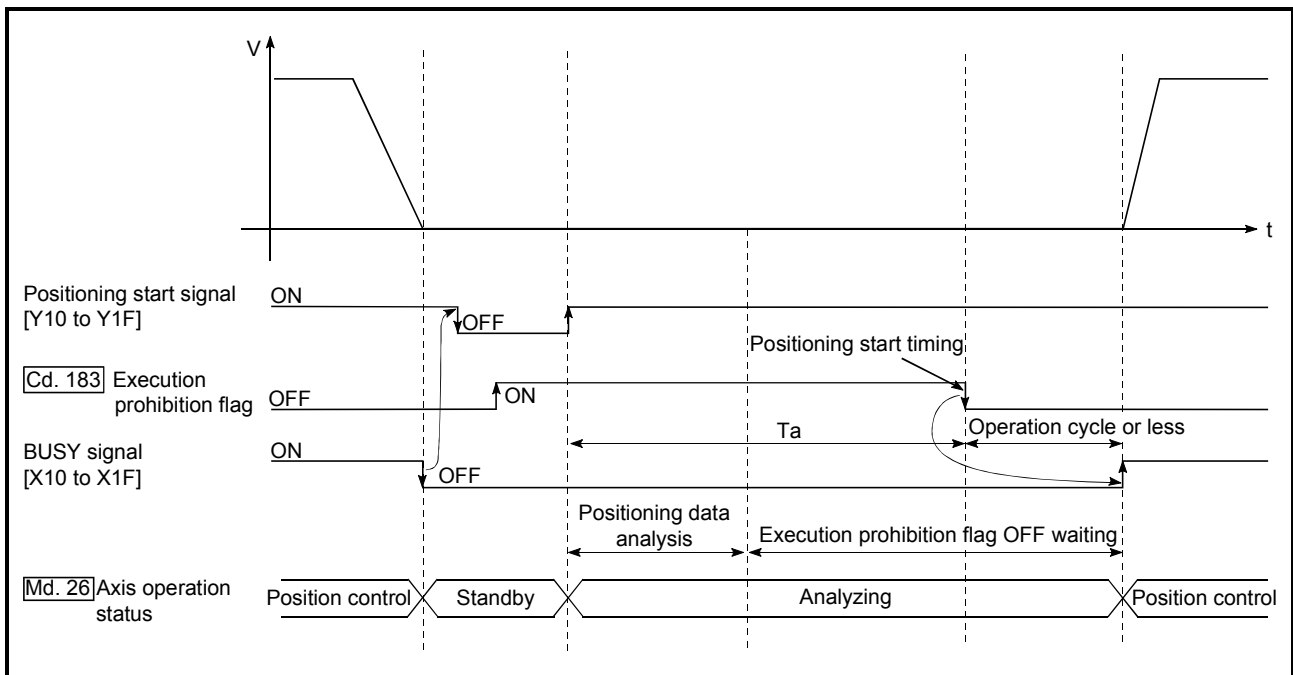

Fig. 13.48 Operations of pre-reading start function
The pre-reading start function is performed by turning ON the positioning start signal with the execution prohibition flag ([Cd.183]) ON. However, if positioning is started with the execution prohibition flag ON, the positioning data is analyzed but servo start is not provided. While the execution prohibition flag is ON, "[Md.26] Axis operation status" remains unchanged from "5: Analyzing". The servo starts within operation cycle after the execution prohibition flag has turned OFF, and "[Md.26] Axis operation status" changes to the status (e.g. position control, speed control) that matches the control method. (Refer to Fig.13.48)
- (1) The time required to analyze the positioning data is up to one operation cycle.
- (2) After positioning data analysis, the system is put in an execution prohibition flag OFF waiting status. Any change made to the positioning data in the execution prohibition flag OFF waiting status is not reflected on the positioning data. Change the positioning data before turning ON the positioning start signal.
- (3) The pre-reading start function is invalid if the execution prohibition flag is turned OFF between when the positioning start signal has turned ON and when positioning data analysis is completed (Ta < start time, Ta: Refer to Fig. 13.48).
- (4) The data No. which can be executed positioning start using "[Cd.3] Positioning start No." with the pre-reading start function are No. 1 to 600 only. Performing the pre-reading start function at the setting of No. 7000 to 7004 or 9001 to 9004 will result in the error "Outside start No. range" (error code: 543).
- (5) Always turn ON the execution prohibition flag at the same time or before turning ON the positioning start signal. Pre-reading may not be started if the execution prohibition flag is turned ON during Ta after the positioning start signal is turned ON. The pre-reading start function is invalid if the execution prohibition flag is turned ON after positioning start with the execution prohibition flag OFF. (It is made valid at the next positioning start.)